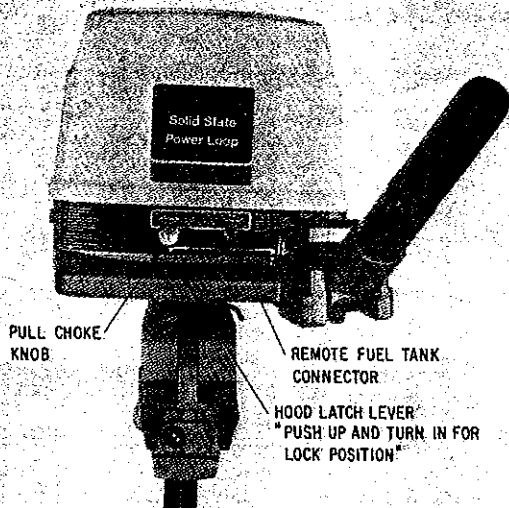

Figure 8. View of a typical choke knob and remote fuel connection.
- D. Pull out choke knob to "Full" choke position. If engine has been running recently, choking may not be necessary. (See Figure 8.)